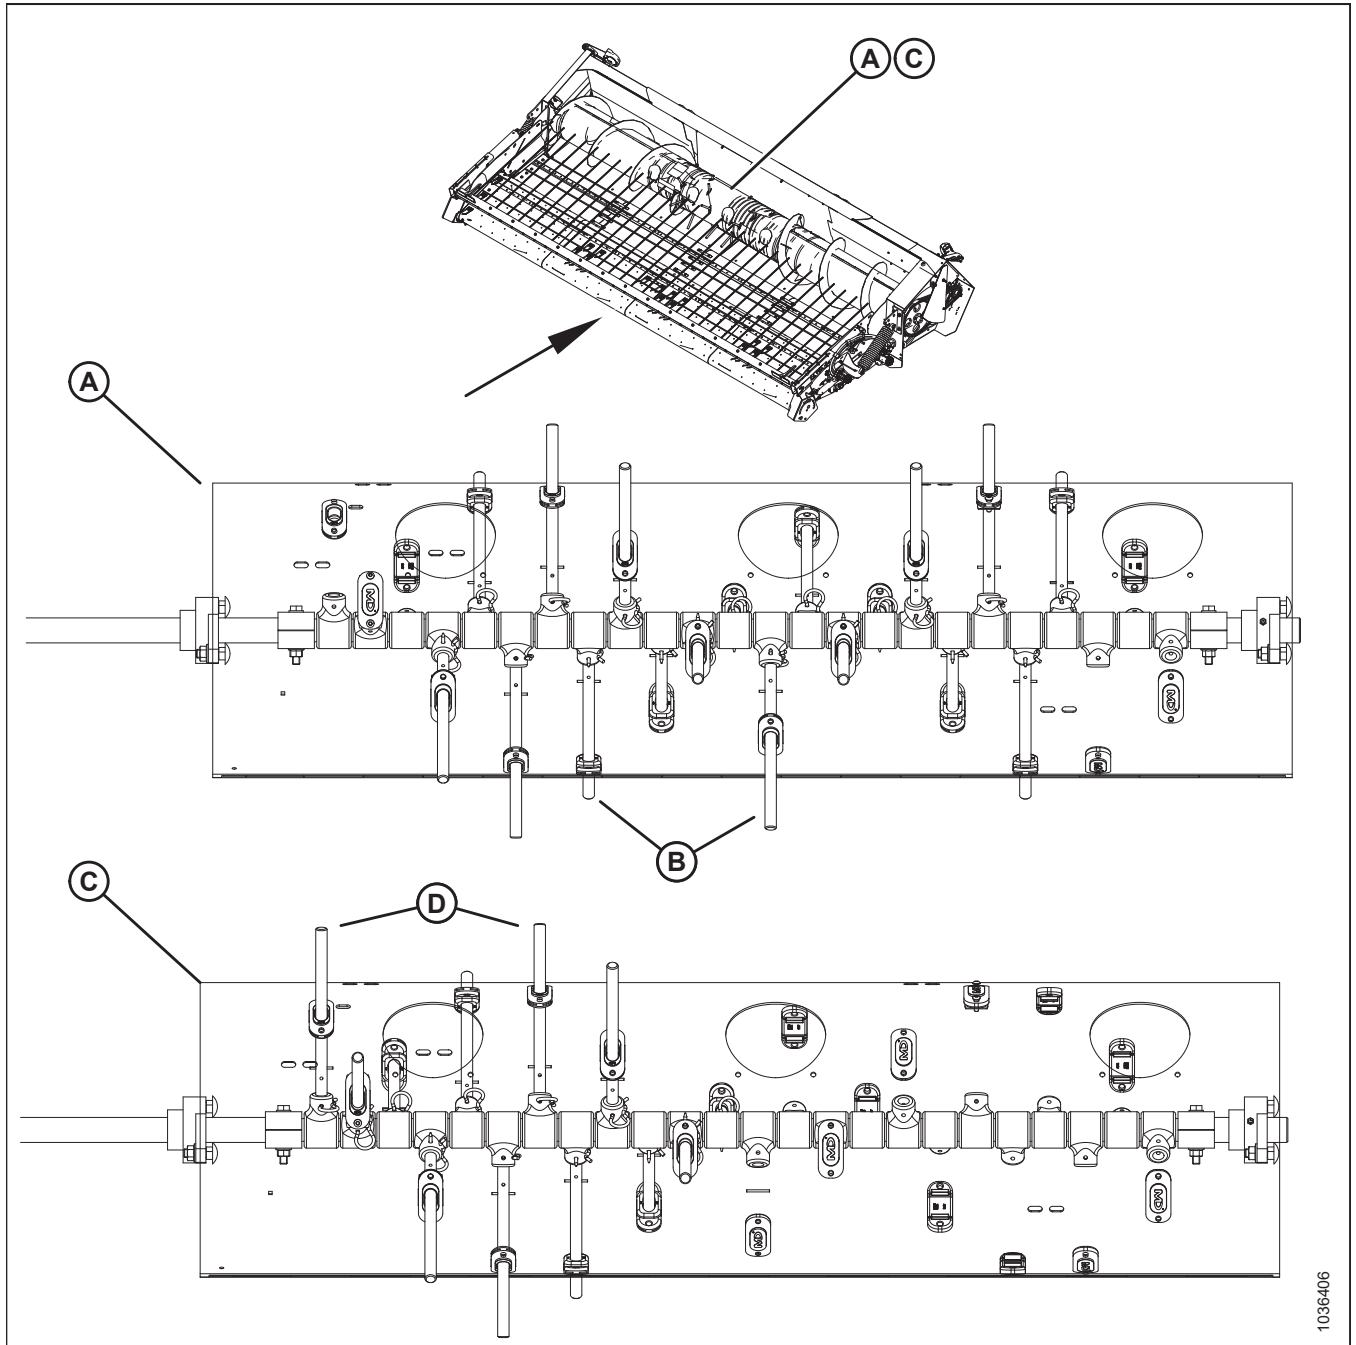

Figure 5.100: Auger Finger Installation Locations
7. Repeat Step 2, page 76 to Step 6, page 76 to remove the plugs from the remaining locations where the fingers will be installed. For an illustration of the locations, refer to Figure 5.100, page 75.